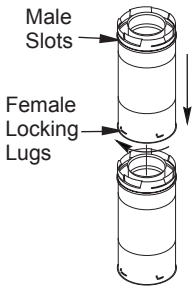

Figure 14 - Vent Pipe Connections
Twist-lock Procedure: The female ends of the pipes and fittings have four locking lugs (indentations). These lugs will slide straight into matching slots on the male ends of adjacent pipes and fittings. (All connections must be sealed with high temperature silicone sealant as specified in the second warning statement on page 10.) Push the pipe sections together and twist one section clockwise approximately one-quarter turn until the sections are fully locked. See Figure 14. **Note:** Horizontal runs of vent must be supported every three feet. Use wall straps for this purpose.
2. Assemble the desired lengths of pipe and elbows necessary to reach from the fireplace flue up through the firestop. All connections must be sealed with high temperature silicone sealant as specified in the second warning statement on page 11. Be sure all pipe and elbow connections are fully twist-locked (see Figure 14, page 12).